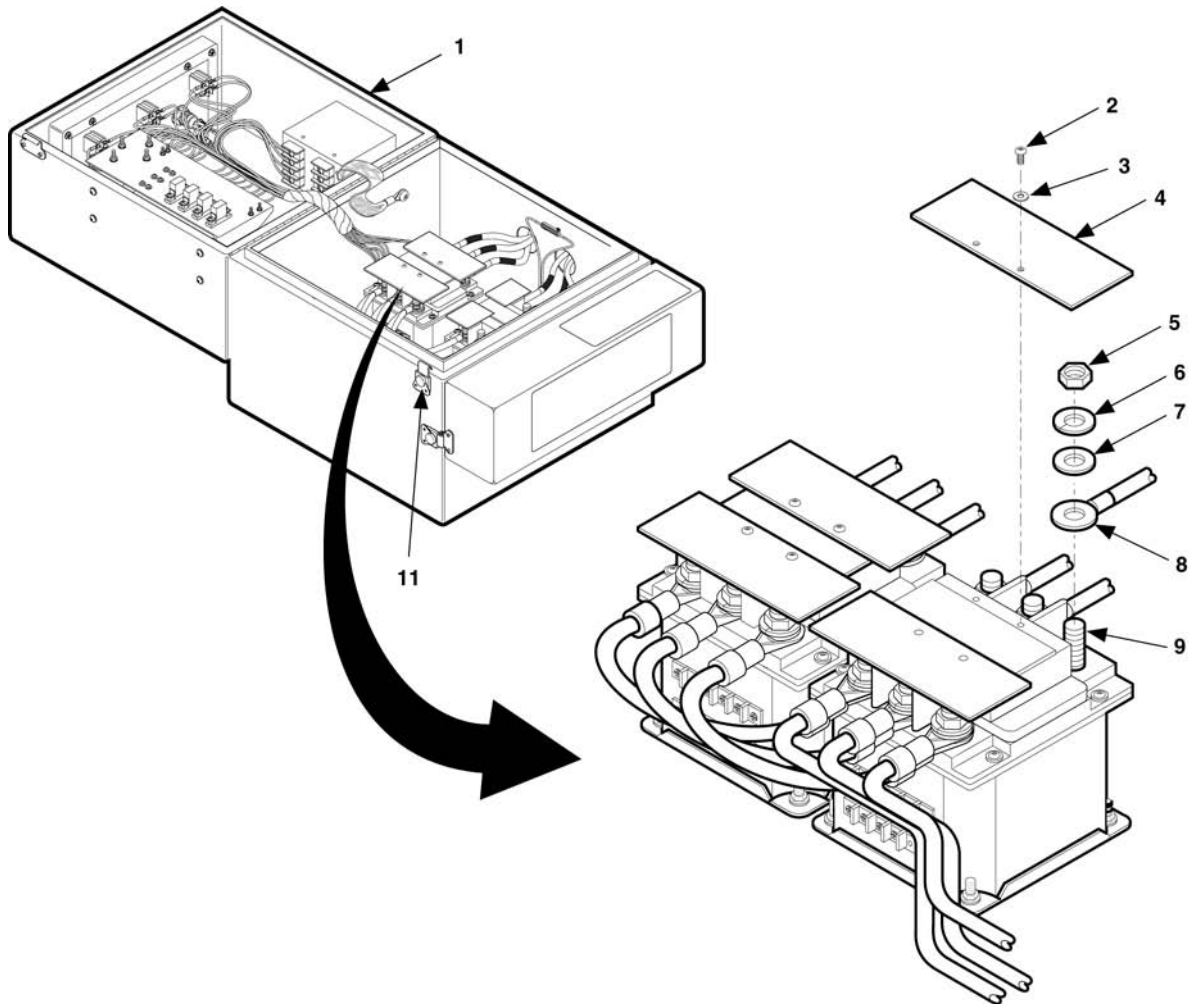
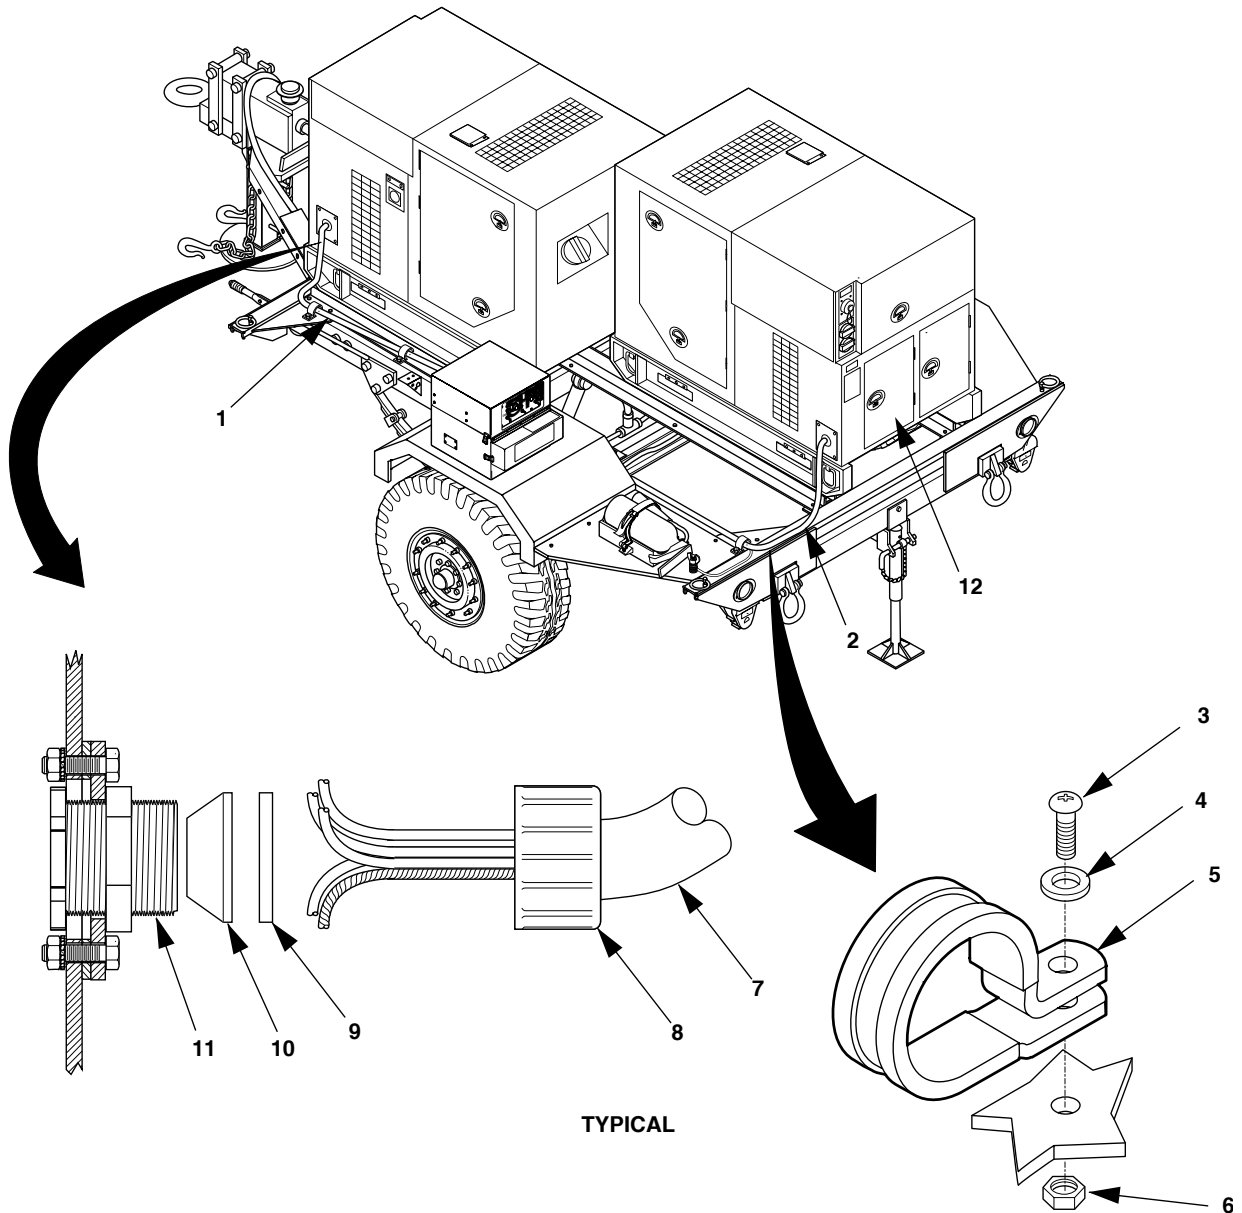
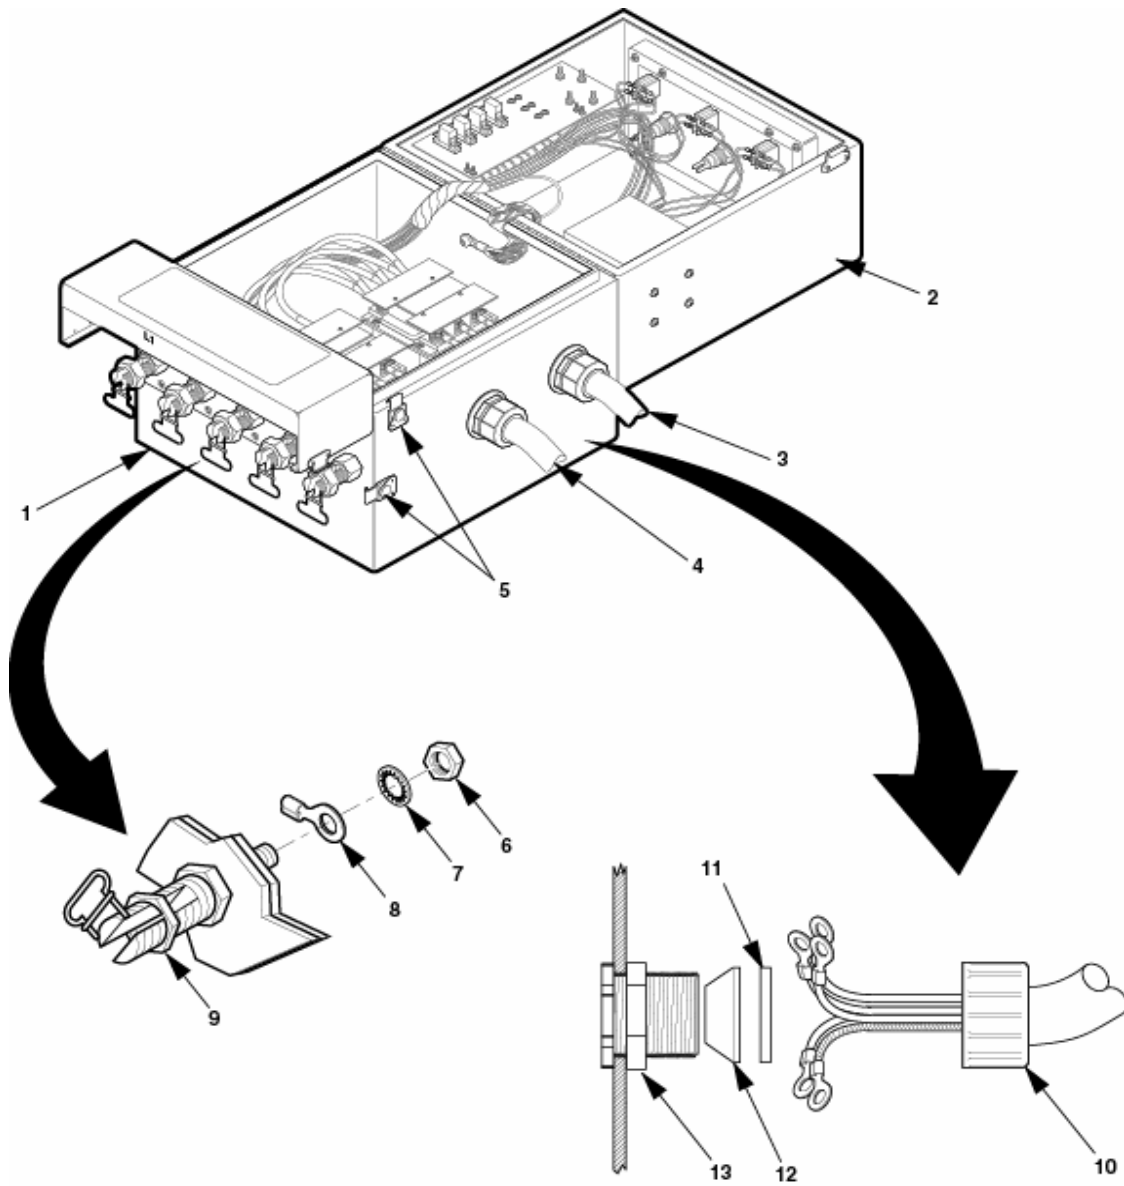

Figure 4-10. Power Cable Connections to Switch Box Contactors.
Figure 4-11. Disconnect Power Cable from Generator Set
Figure 4-12. Disconnect Power Cable From Switch Box (NEW) Terminals.
1. Release two clamping catches (11, figure 4-10) and open switch box cover (1).
1. Disconnect electrical leads (1) or (2) and ground lead from generator set.
2. Pull power cable from stuffing tube (11).
- a. Remove stuffing tube compression nut (8, figure 4-11) from stuffing tube body (11).
- b. Pull power cable (1) or (2) through stuffing tube until ends of power cable are free of stuffing tube body (11).
- c. Remove washer (9), seal (10), and stuffing tube compression nut (8) from power cable (1) or (2). Place items back on stuffing tube and tighten.
- a. Release clamping catches (11, figure 4-10) and open switch box cover (1).
- b. Remove two screws (2) and lock washers (3) from contactor terminal shield (4) of contactor associated with power cable being removed.
- c. Remove contactor terminal shield (4).
- d. Remove nuts (5), lock washers (6), and flat washers (7) from contactor terminals (9).
- e. Lift terminal leads (8) from contactor terminals (9). Remove only the terminal leads associated with electrical leads of power cable being removed. If necessary to remove other terminal leads to access those for power cable being disconnected, reinstall other terminal leads onto contactor terminals (9).
- f. Install flat washers (7), lock washers (6), and terminal nuts (5) on contactor terminals (9).
- g. Remove hex nuts (6, figure 4-12) and internal tooth washers (7) from ground and N terminals (9) of switch box.
- h. Remove only the wire associated with the power cable being replaced. If necessary to remove other terminal leads to access those for power cable, reinstall other terminal leads on terminal (9).
- i. Place internal tooth washers (7) over the end of terminals (9) and loosely install the hex nuts (6).
- j. Remove stuffing tube compression nut (10) from stuffing tube body (13).
- k. Pull power cable (3 or 4) through stuffing tube (13) until ends of power cable are free of stuffing tube body (13).
- l. Remove washer (11), seal (12), and stuffing tube compression nut (10) from power cable (3 or 4). Place items back on stuffing tube and tighten.
- a. Remove self-locking nuts (6, figure 4-11), screws (3), and flat washers (4) securing clamps (5) to trailer. Remove cable (3 or 4).
- b. Remove clamps (5, figure 4-12) off power cable (3 or 4).
1. Install stuffing tube compression nut (10, figure 4-12), washer (11)), and seal (12) on end of power cable (3 or 4) having leads with terminal lugs.
2. Insert terminal lug end of power cable (3 or 4) into stuffing tube assembly (13) and slide forward until end of power cable outer covering is visible inside switchbox (1).
3. Slide seal (12), washer (11), and stuffing tube compression nut (10) forward and tighten compression nut.
4. Remove hex nut (6) and internal tooth washer (7) from load terminal N (9) and install lead marked N.
5. Install internal tooth washer (7) and hex nut (6). Tighten hex nut.
7. Remove nuts (5, figure 4-10), lock washers (6), and flat washers (7) from contactor terminal (9) of contactor associated with power cable being installed.
14. Place clamps (5, figure 4-12) on replacement power cable (3 or 4) and existing ground wire going from switch box ground terminal and trailer ground stud, and install flat washers (4, figure 4-11), screws (3), and self-locking nuts (6).